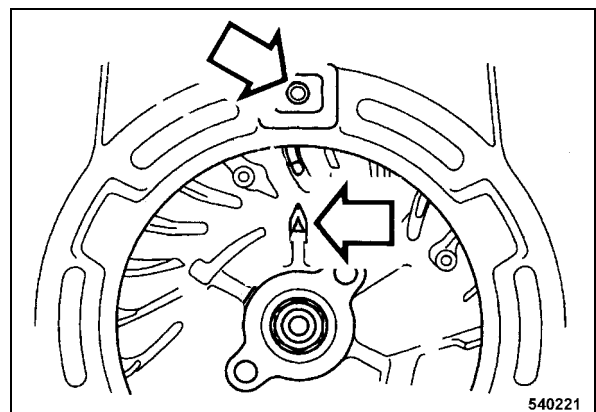

Fig. 47
- Align the alignment mark Δ on the flywheel rib with the top bore in the fan cover (Fig. 47).